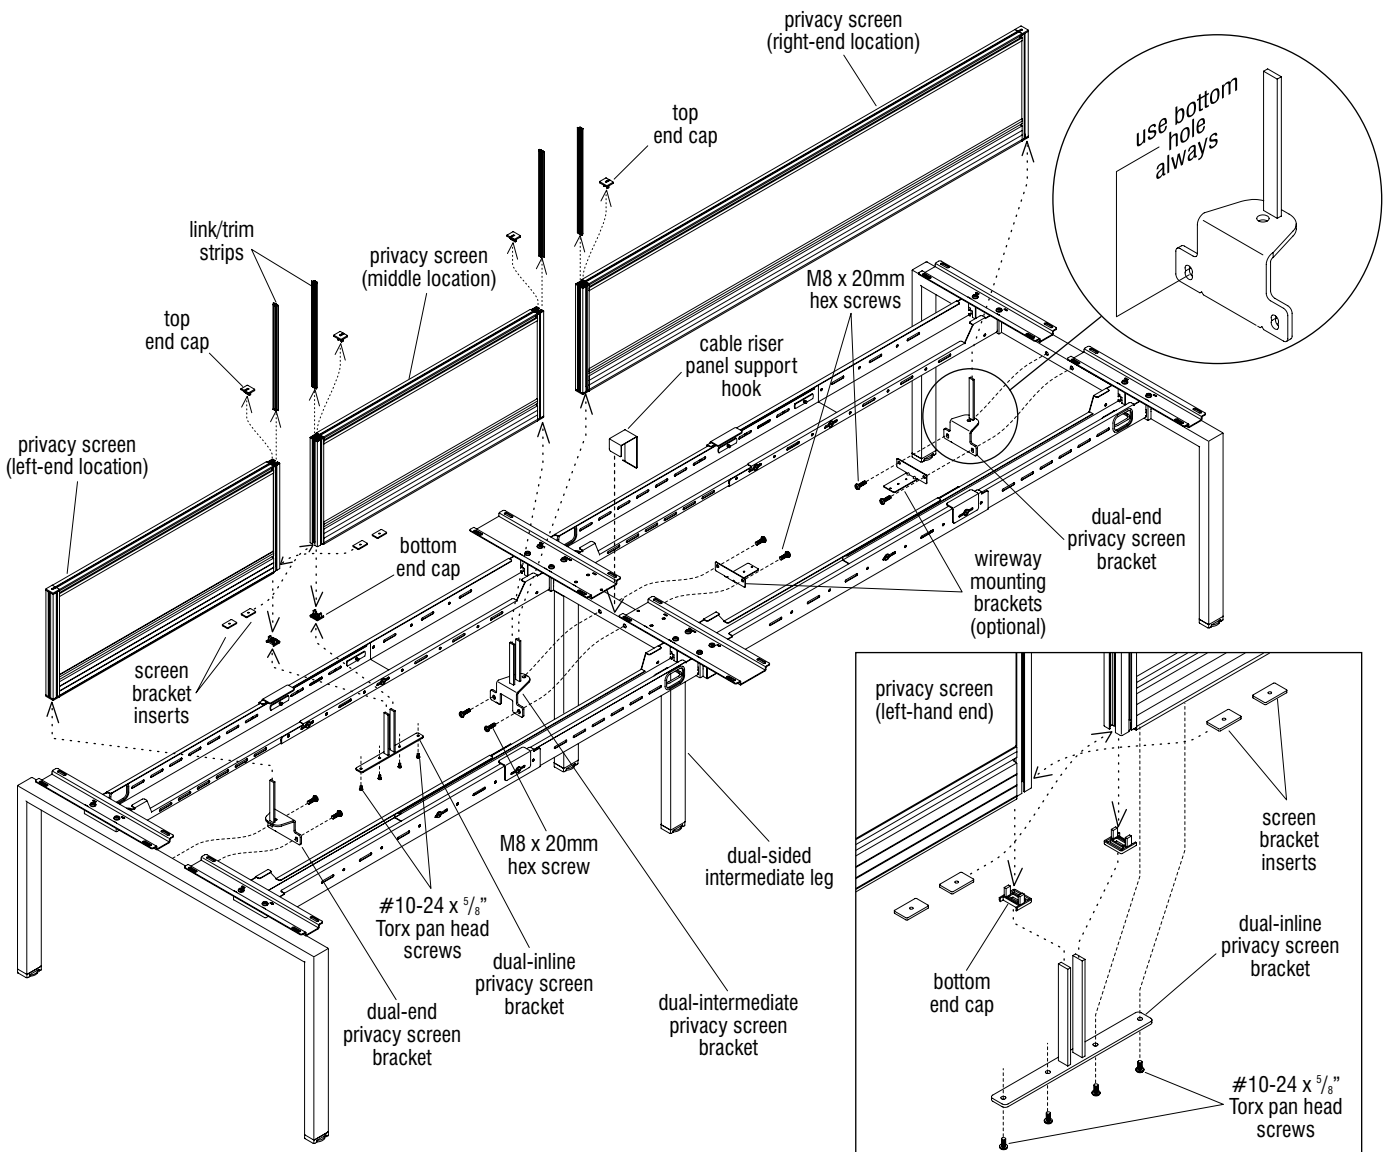

Figure 14 - Dual-Sided Benching Brackets and Privacy Screen Installation
1. Carefully stage the modesty panels onto the floor along benching system per the space-planning layout. Take note of which privacy screens will be middle units and which will be installed to either the right- or left-hand end of the benching system row (Figure 14).
2. If specified, position a cable riser panel support hook as illustrated, orienting it onto the top of the dual-sided intermediate leg, centered between the holes of the horizontal upright (Figure 14, page 51 & Figures 50 & 51, page 83).
3. At locations where privacy screens will attach at the end of any benching run, Install a “dual-end privacy screen bracket” to the inside of each far right- and far left-hand end leg as illustrated using two M8 x 20mm hex-drive screws, routed through the bottom holes in the slots for proper mounted height (Figure 14).
4. At each “dual-sided intermediate leg”, where the two privacy screens will meet, install a “dual-intermediate privacy screen bracket” as illustrated using two M8 x 20mm hex-drive screws (Figure 14). Also as stated above, if a wire harness assembly is to be installed to the benching unit at the location of the bracket, be sure to install a wireway mounting bracket over the privacy screen mounting bracket at this time (Figure 9, page 46).
**Note:** “Dual-inline privacy screen brackets” will be specified if a 60” or longer dual worksurface unit is to have more than one privacy screen installed between them, such as when worksurface tops are separated by dividers into study carols. For this configuration, privacy screen top end caps and link/trim strips must be removed wherever privacy screens will join together. And, where a “dual-inline privacy screen bracket” will join under two modesty panels at a longer worksurface, the bottom end caps must also be removed to assemble screen bracket inserts (Figure 14).
5. At locations where “dual-inline privacy screen brackets” will join two privacy screens together, remove the bottom end caps of the adjoining privacy screens. Slide two “screen bracket inserts” into the slot at the underside of each privacy screen, then re-install each bottom end cap (Figure 14).
openings in both bottom end caps, and into the vertical extrusions of both privacy screens being joined. Take care to keep privacy screens level and even when pressing in the bayonets. Finally, use two screws per privacy screen side and secure the bottom of the dual-inline privacy screen bracket to the screen bracket inserts using #10-24 x 5/8" Torx pan head screws as illustrated (Figure 14 & Detail D).
8. Where all other privacy screens join together over any "dual-sided end leg", or "dual-intermediate privacy screen bracket", **first remove top end caps, then the link/trim strips and set aside.** One of the two strips will be re-used (Figure 14).
9. Per the space-planning layout, set each right-, left-hand and middle location privacy screens onto the privacy screen brackets of the benching system as illustrated. The upward facing bayonets of the brackets insert into the extrusion of the privacy screen frame. Take care to keep privacy screen level while sliding onto the bayonets to avoid binding (Figure 14).